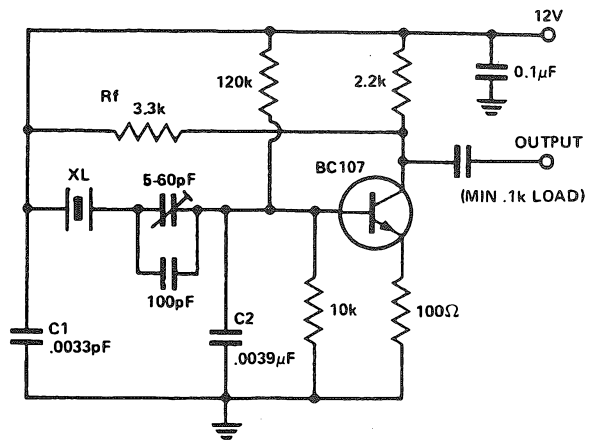

Fig.6. Parallel mode LF oscillator.
The circuit in Fig. 6 is also described by Lane (3) and can be recognised as a modified form of the Colpitts oscillator, with the addition of resistor Rf to control feedback (it works the same way as Eno's). Capacitors C1 and C2 should be reduced by preferred values as the frequency is increased. At 500 kHz, values for C1 and C2 should be around 100 pF and 1500 pF
A useful oscillator for the range 3 to 10 MHz that does not require a tuned circuit is given in Fig. 8 (a). It is, of course, the same circuit as Fig.6. The circuit can be used down to 1 MHz if C_1 and C_2 are increased to 470 pF and 820 pF respectively. It can be used up to 15 MHz if C_1 and C_2 are reduced to 120 pF and 330 pF respectively. This circuit is recommended for non-critical applications where high harmonic output is wanted, or not a consideration.